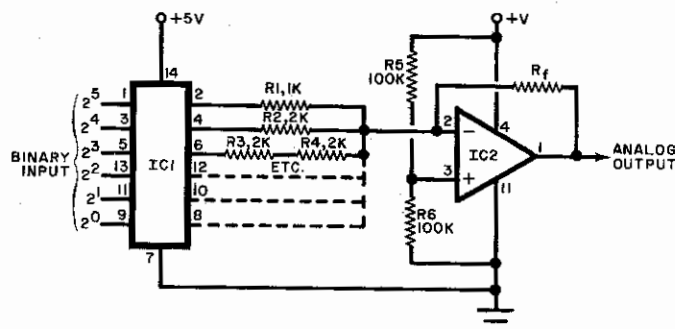

Fig. 6. Digital/analog converter circuit.
Recognizing that many of today's hobbyists are working with digital projects, reader Robert L. Schuman (R.R. #2, Winthrop, IA 50682) has suggested the circuit given in Fig. 6 as an inexpensive solution for those requiring a simple digital-to-analog (D/A) converter. Using only two IC's, a hex inverter ($IC1$) and an operational amplifier ($IC2$), the circuit accepts digital binary input pulses and converts these to an equivalent analog signal. In operation, the actual conversion process takes place in a weighted resistive divider network ($R1$, $R2$, $R3$, $R4$, etc.) connected to the hex inverter's output terminals and which, in turn, becomes part of the op amp's inverting input feedback/bias circuit. The output resistance for each binary digit from 2^5 (32) to 2^0 (1) is doubled in value so that the summed resistive output connected to the op amp is inversely proportional to the input binary signal, thereby insuring that the op amp's output is directly proportional to the original binary number.